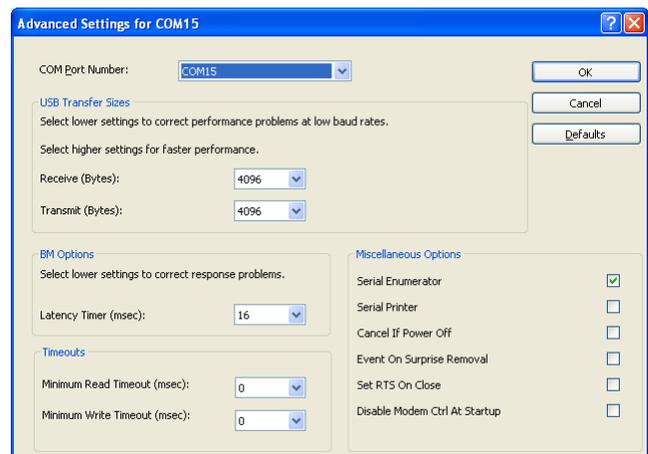

Figure 11. Advanced COM Port Settings.
10. **Select the "COM Port Number" drop down menu and choose a COM Port which is not being used AND lower than COM Port 10.** This will open the "Advanced Settings for the COM port (Figure 11).